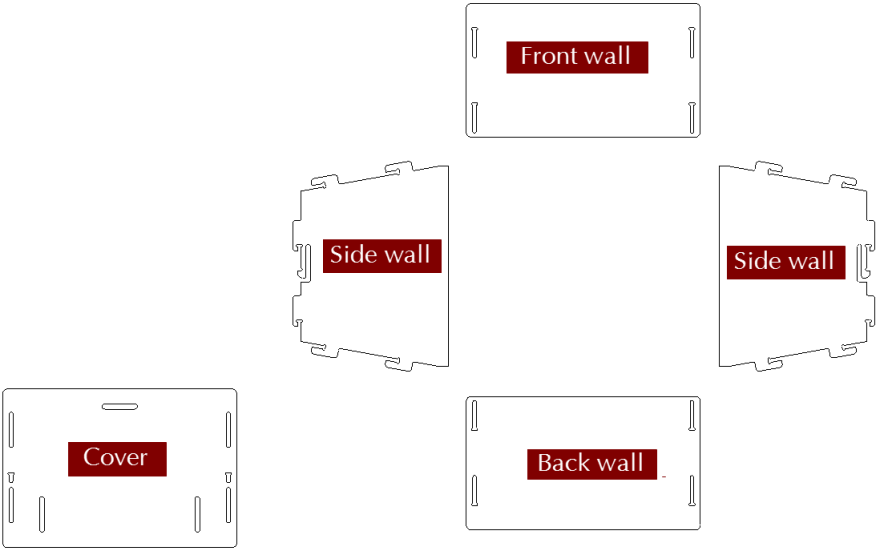
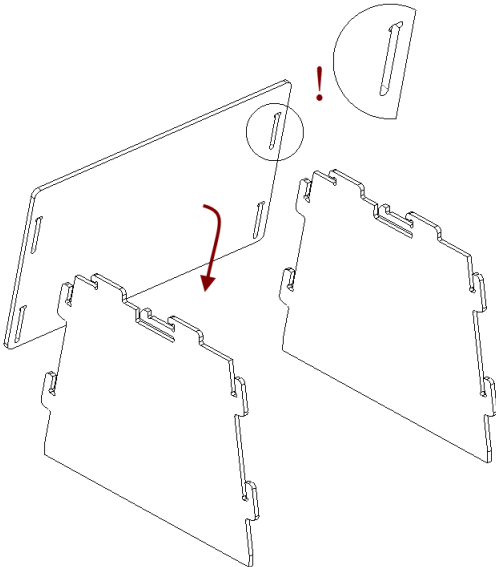
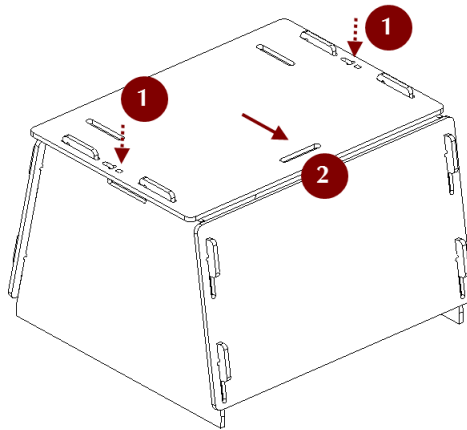

Figure 219: Parts of the scanner stand.
Figure 220: Assembling the front wall.
Figure 223: Latching the cover.
The scanner stand comes unassembled with Artec Spider and consists of five parts (see Figure 219): two side walls, one front and one back wall (these parts are identical, however), and a cover. Before beginning assembly, lay them all out as Figure 219 shows. Then follow these steps:
1. Raise the two side walls to the upright position, as Figure 220 shows. Noting carefully the orientation of the T-shaped slot, install the front wall to the side walls using the two pairs of hooks. Press the front wall and slide it down against the stop. Make sure the three walls are properly aligned with each other.
4. Press your thumbs against the T-shaped holes on the cover and shift it toward the back wall until you hear a click (see Figure 223).
Note: To disassemble the stand, release the detents in the cover's T-shaped slots (see Figure 219) using a thin object like a ballpoint pen. Repeat the assembly steps in reverse order (from Figure 223 to Figure 220), moving the parts in the opposite directions.